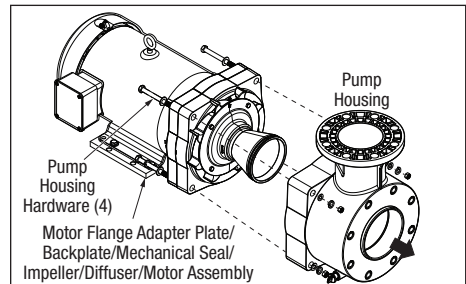

Figure 13. Remove Pump Housing
8. Using a 15/16" wrench, loosen the four (4) Hex Screws of the Pump Housing Hardware securing the Pump Housing to the Motor/ Motor Flange Adapter Plate/Backplate/Mechanical Seal/ Impeller/Diffuser assembly. See *Figure 13*.
9. Carefully pull the Pump Housing forward away from motor assembly. Ensure the Diffuser clears the pump housing during this process. See *Figure 13*.